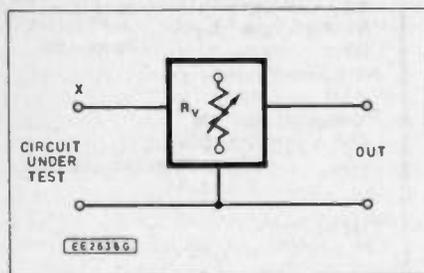

Fig. 1. Basic arrangement.
Reduce to essentials The Tester is a box containing a variable resistance R_v (Fig. 1) and equipped with input (X) terminals and output terminals. In use, the component or network under test is connected to X and R_v adjusted until the circuit just oscillates. The effective resistance of the circuit can then be read off the scale of R_v .